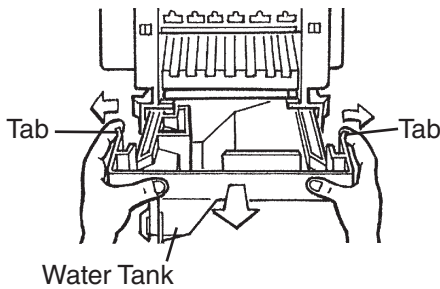

**Fig. 37**
- 2) Remove the slope from the ice storage bin by carefully bending it in the center and releasing it from the 2 slope shafts. See Fig. 37.